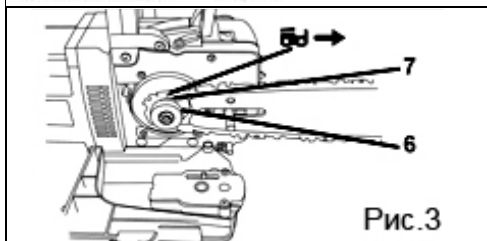
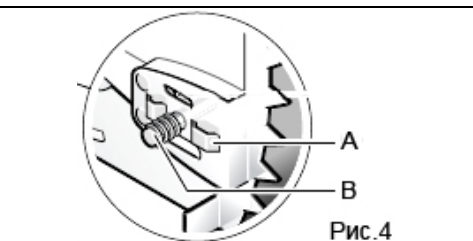

Рис. 3
Рис. 4
- Place the chain links on the chain sprocket (6, Fig. 3) on the sprocket teeth (7, Fig. 3) and install the bar (4, Fig. 2) so that the bar guides (A, Fig. 4) located in front of and behind the fastening bolt (B, Fig. 4) fit into the longitudinal hole in the bar (7, Fig. 3).